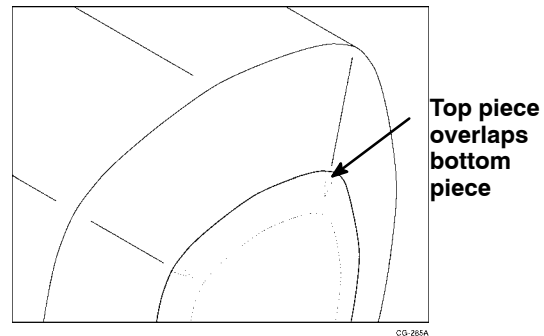

Figure 5. Overlapping The Cut Film
- b. Overlap the excess film so that the upper piece overlaps the lower piece. See Figure 5.